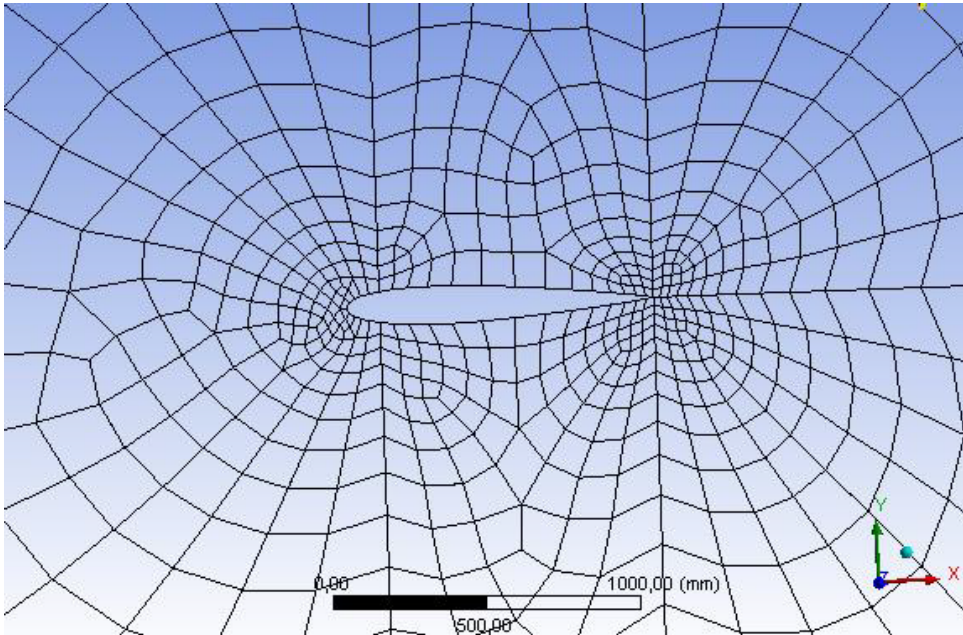

Figure 5: **Fig. 5** Preliminary mesh generated over airfoil using the global mesh settings
2. Click on the **Mesh** button. Change the settings under the **Physics reference** from **Mechanical** to **CFD**, use **Fluent** as **Solver Preference**. Generate a preliminary (unstructured) mesh (see fig. 5). The mesh is very coarse near to the surface and it cannot be used for viscous flow simulations.